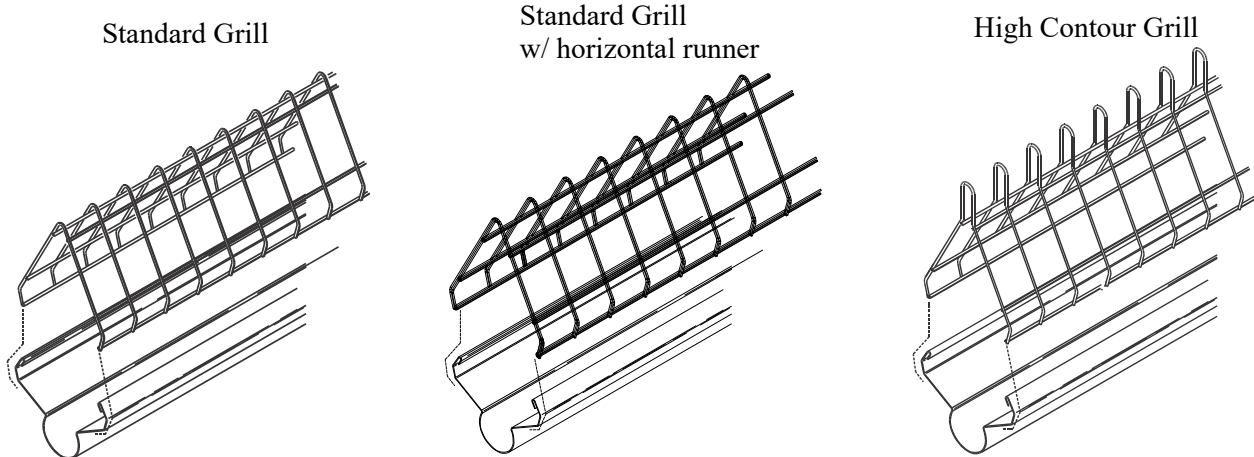

Figure 35. Grill Installation
The ULTRAFLO® Breeder Feeder offers the choice of (3) Grill styles, the standard Grill, standard Grill (w/ horizontal runner wire), & the Hi-Contour Grill. Refer to **Figure 35** for applicable Grill installation diagram. Additionally, a variety of spacings are available for each grill style.